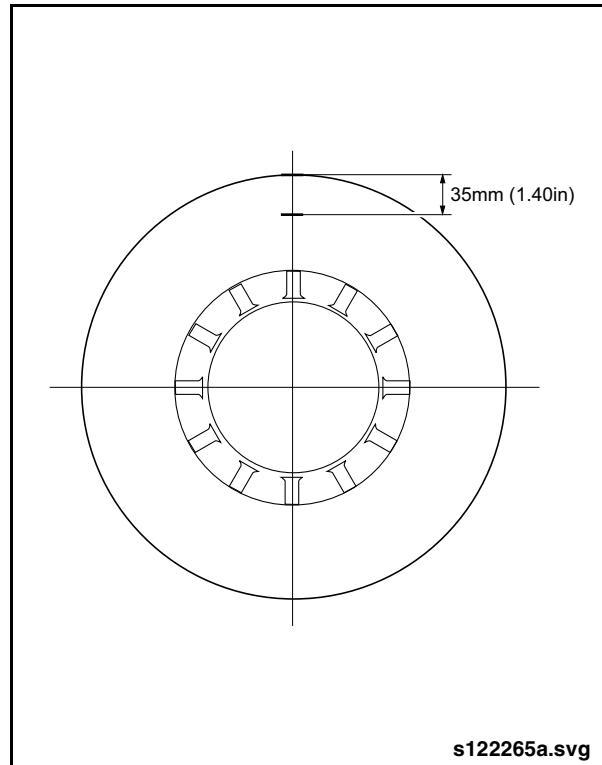

Fig. 2-113: Rotor Run-Out Measurement Point
- a. Mount dial indicator (Items 29 & 69 from special tools list) so that tip of indicator is perpendicular to brake disc surface at 1.40" (35 mm) down from the outer rim of the rotor. See "Fig. 2-113: Rotor Run-Out Measurement Point" on page 100.